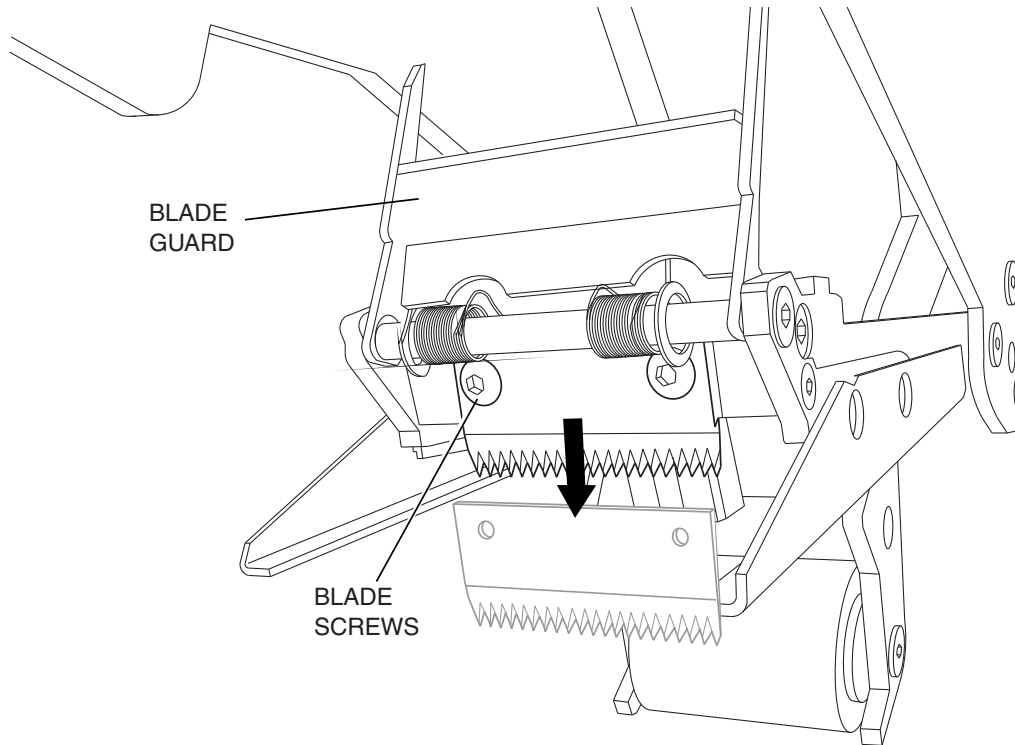

Figure 13 Blade Replacement
4.10 Blade Replacement – Figure 13